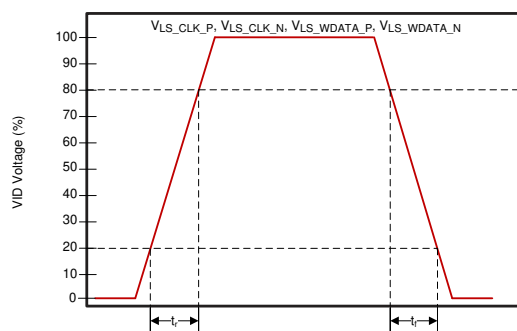

Figure 5-6. LSIF Rise, Fall Time Slew
(2) See Figure 5-6 for rise time and fall time for LSIF.